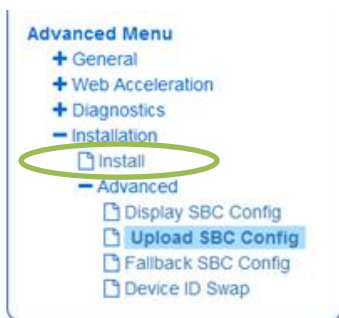

Figure 15
- On the left pannel click 'Installation', 'Advanced', '**Upload SBC Config**' (fig. 15)
Step 22: Click '**INSTALL**' on the left side panel (fig. 15) to open the installation page